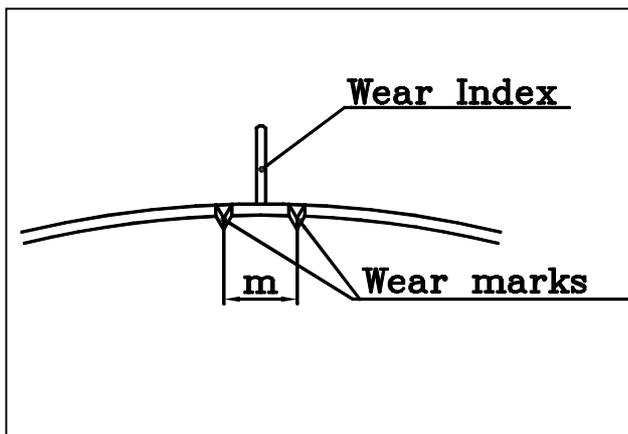

Fig. 3 Between marks → OK
- **Internal wear of the teeth** - The position of the index mark, item 13, in relation to the control marks on the hub, Fig. 3, are an indicator of the state of the flanks wear. When the equipment is new, the index mark is centered (case a). When it reaches the limit (case b) the whole coupling has to be replaced.